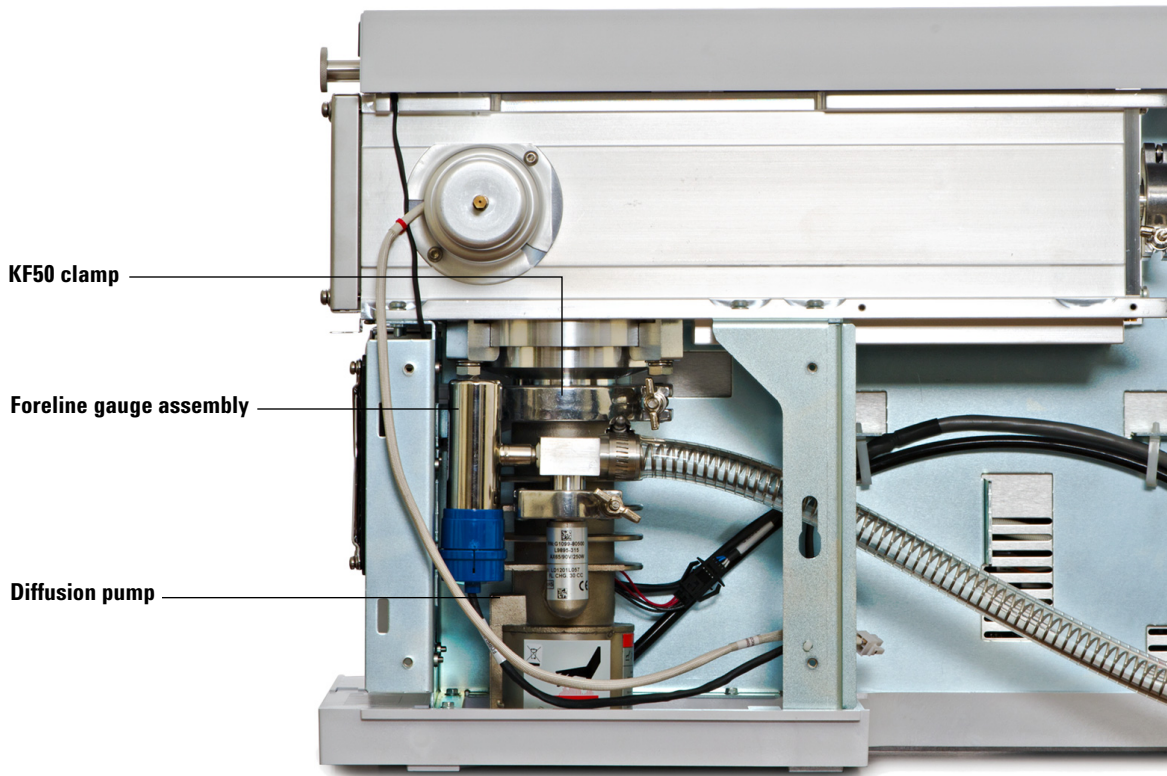

Figure 11 Removing the diffusion pump
- 6 Remove the KF50 clamp. See Figure 11.